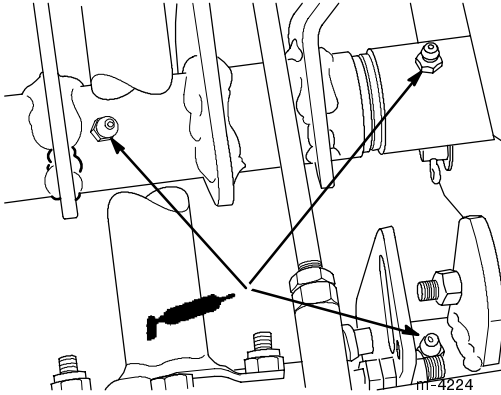

Figure 38
4. Lubricate the three grease fittings (Fig. 38).